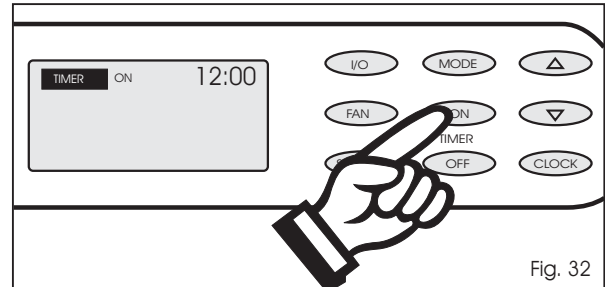
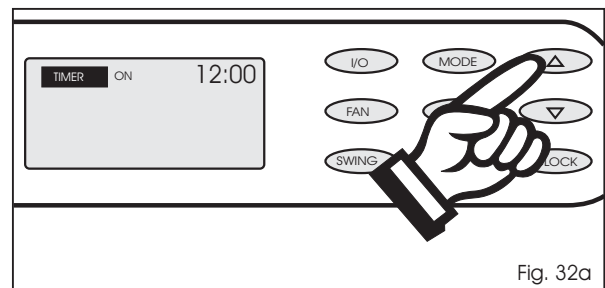
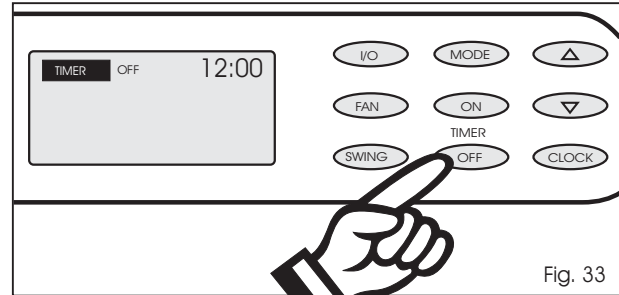
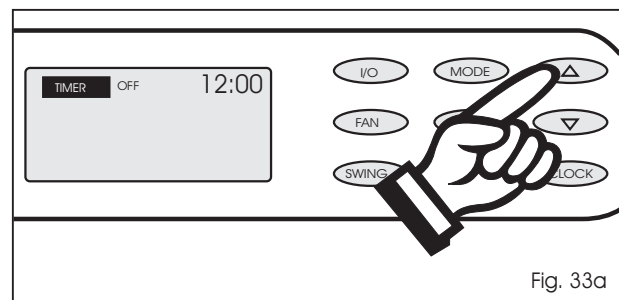

Fig. 32
Fig. 32a
Fig. 33
Fig. 33a
7) Press the **TIMER-ON** key pad to initiate the **AUTO-ON** time sequence. Fig. 32. The display window will indicate **TIMER-ON** and the word **ON** will flash for 5 seconds. Press the Δ or ∇ key to select the desired **AUTO-ON** start time. Fig.32a.
- 2) Press the **TIMER-OFF** key pad to initiate the **AUTO-OFF** time sequence. Fig. 33. The display window will indicate **TIMER-OFF** and the word **OFF** will flash for 5 seconds. Press the Δ or ∇ key pad to select the desired **AUTO-OFF** start. Fig.33a.
1) Press the **TIMER-ON** key pad to initiate the **AUTO-ON** time sequence.(Fig.32). The display window will indicate **TIMER-ON** and the word **ON** will flash for 5 seconds. Press the Δ or ∇ key pad to select the desired **AUTO-ON** start time.(Fig. 32a).
2) Press the **AUTO-OFF** key pad to initiate the **AUTO-OFF** time sequence. (Fig.33). The display window will indicate **TIMER-OFF** and the word **OFF** will flash for 5 seconds. Press the Δ or ∇ key pad to select the desired **AUTO-OFF** time.(Fig. 32a).